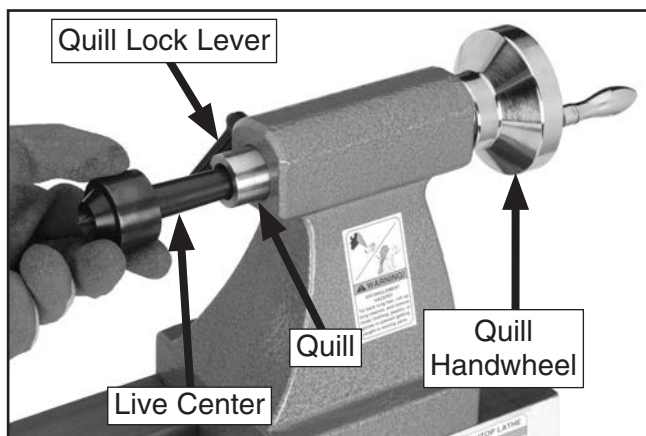

Figure 27. Typical live center installation.
3. Insert live center, as shown in **Figure 27**, and push firmly.